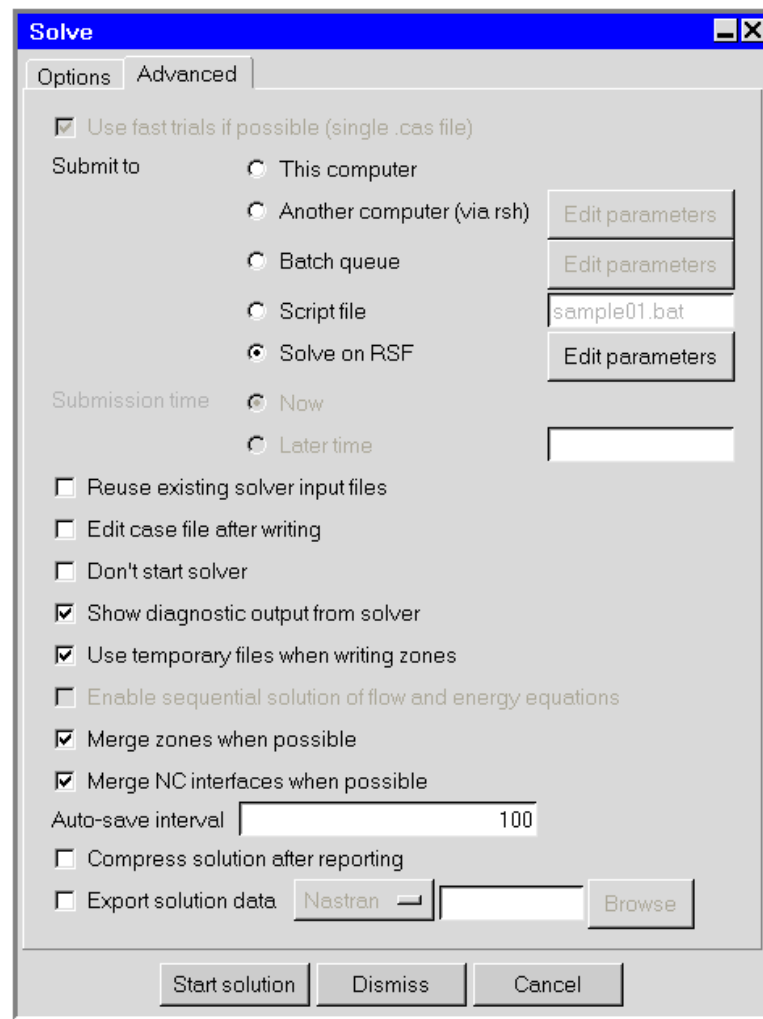

Figure 27.11.10: The Solve Panel for RSF Processing (Advanced Tab)
- Specify the project that is to be submitted to the RSF (Figure 27.11.10).